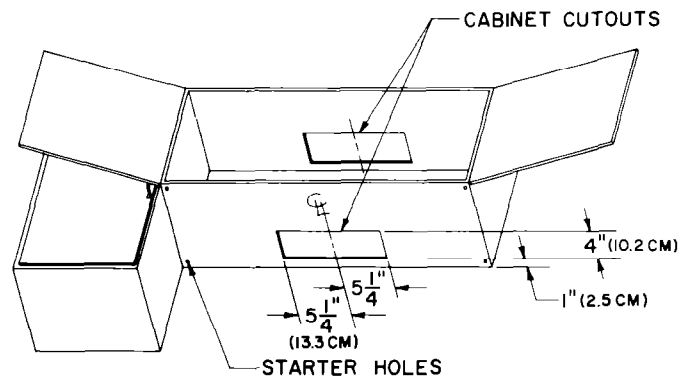

FIG. 2
3. Cut holes at marked locations to accommodate ventilating duct and electrical wiring. Allow 3/4" (1.91 cm) extra on ventilating opening toward the front of cabinet directly above the hood. Be sure to minimize openings through outside walls or the ceiling. These will have to be sealed later. Figure 2 shows cabinet cutouts for the 3 3/4 x 10 Vertical Venting.